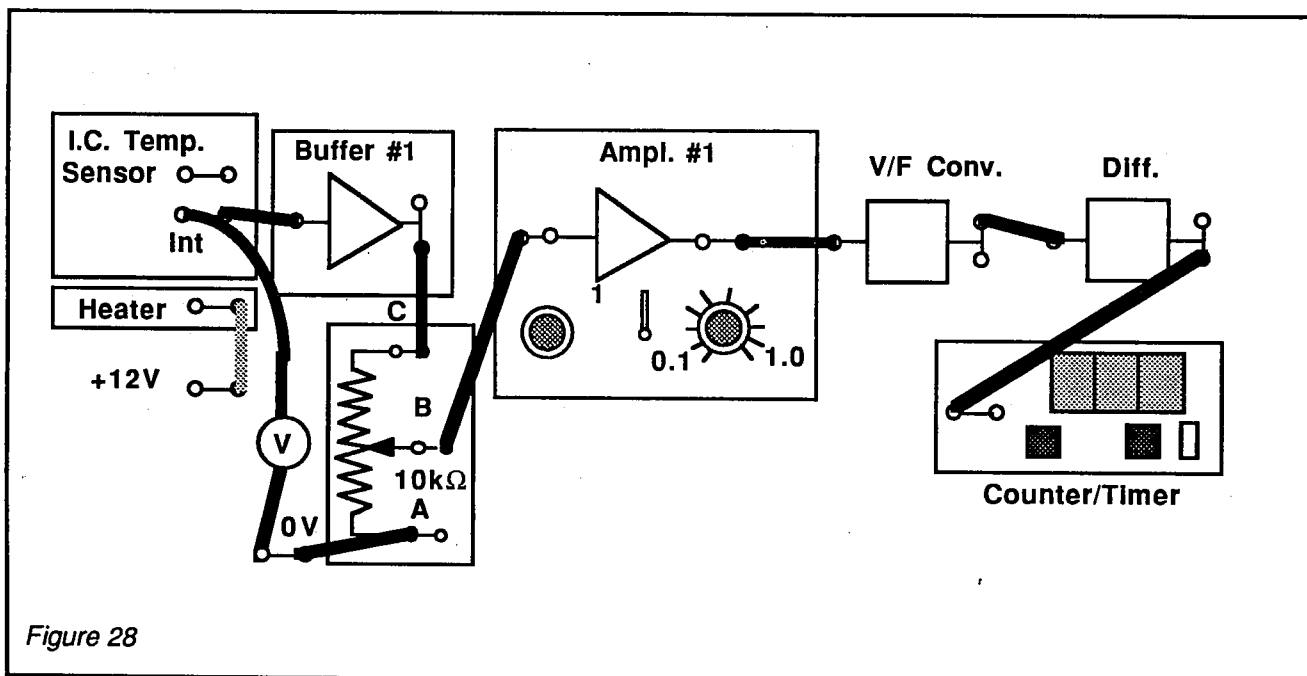

Figure 28
- Connect the circuit as shown in Fig 28, set the 10k Ω slider fully to the right, the differentiator time constant to 1s and the counter controls to "count" and 1s.